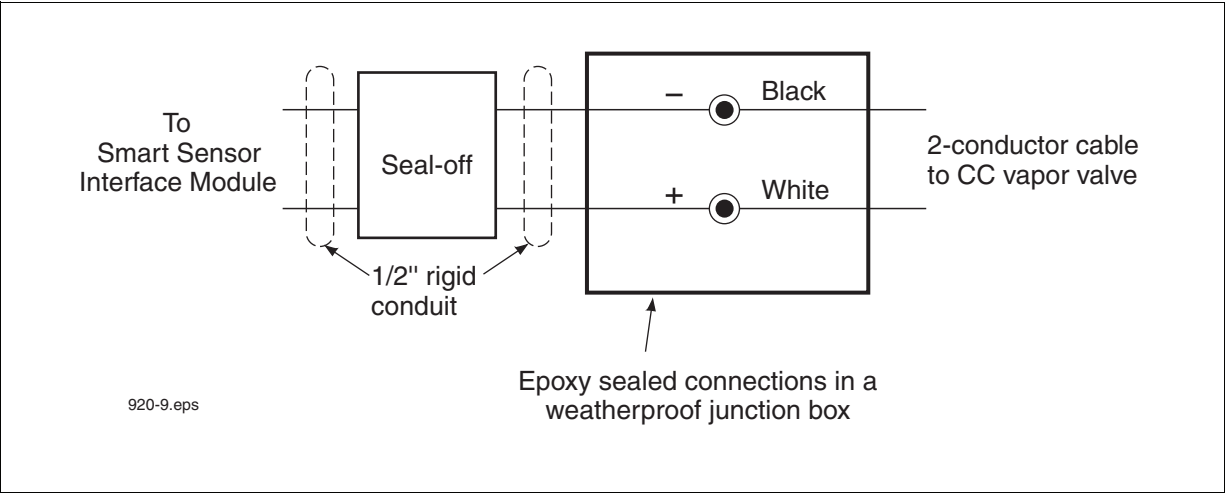

Figure 5. Field wiring CCVP vapor valve
11. Connect the white wire of the two conductor cable from the vapor valve to the positive sensor wire from the TLS console smart sensor interface module (see Figure 5). Connect the black wire on the two conductor cable to the negative sensor wire from the TLS console smart sensor interface module.